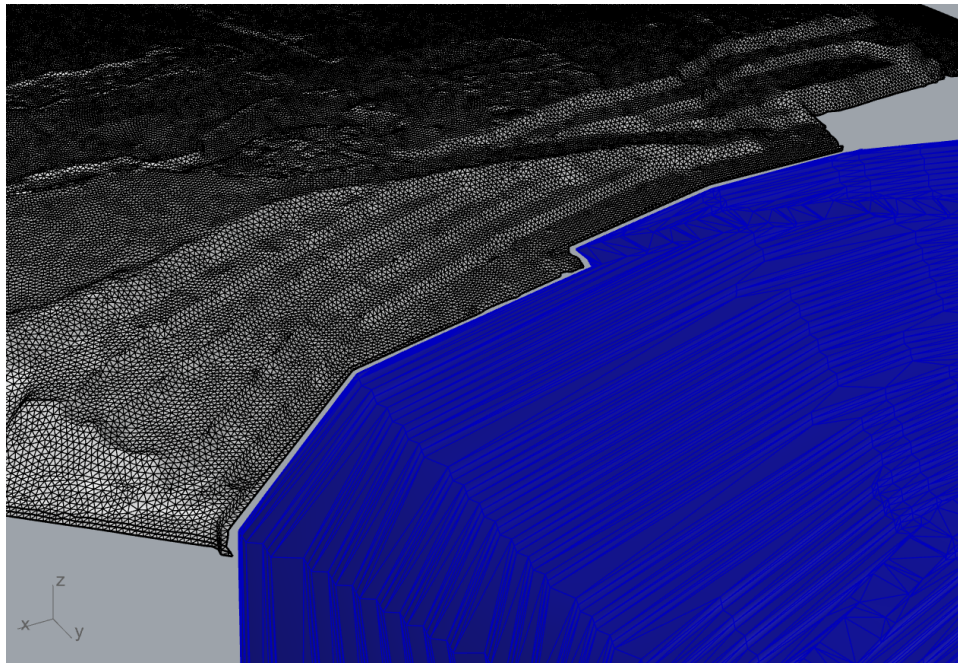

Figure 78: A gap between the pit and pit dump meshes.
14. Unhide the rest of the dump mesh with the **_Show** command. First select the remaining thin layers of faces and add the main pit dump mesh to the selection. Type the **_Join** command to join all meshes. Verify the mesh is in the “Dump” layer and delete the recently created “Dump_Extracted” layer. Now a small gap between the pit and the dump meshes can be clearly visible as in Figure 78 (turn on “Pit” layer to check). Make sure the mesh is in the “Pit” layer